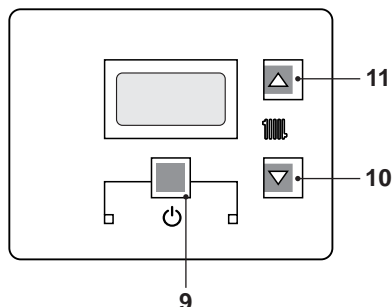
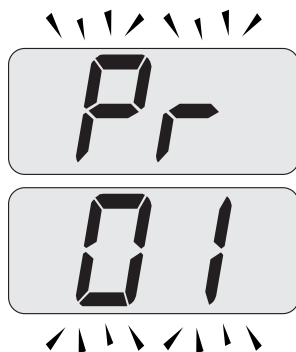

Fig. 9.10
Fig. 9.11
- Enter in "programming mode" by pressing keys 9 - 10 - 11 (Fig. 9.10) for 10 seconds at the same time until the letters **Pr** that alternate with code **01** are displayed on the LCD display, indicating that "parameter 01"(Fig. 9.11) has been activated.
- Press keys 10 and 11 (Fig. 9.10) at the same time until the LCD display displays the letters **LP** that alternate with the heating water temperature value (e.g.45), indicating the activation of the "chimney sweep function" at minimum output (Fig. 9.12).
- Press keys 9 - 10 - 11 (Fig. 9.10) at the same time again to exit the "chimney sweep mode" and return to the previously set boiler status (Fig. 9.15).